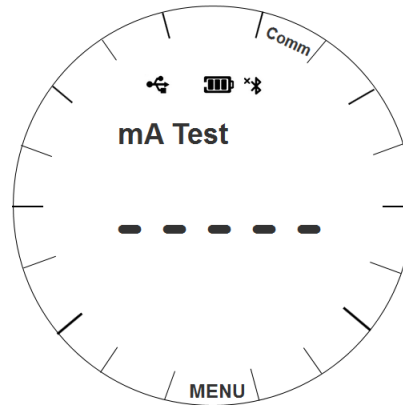

Figure 20 4-20mA loop current test interface
2. When the 4-20mA module is enabled, the loop current test interface is shown in Figure 20. Click the main display area and set a value that within the current output range to enter the loop current test state.